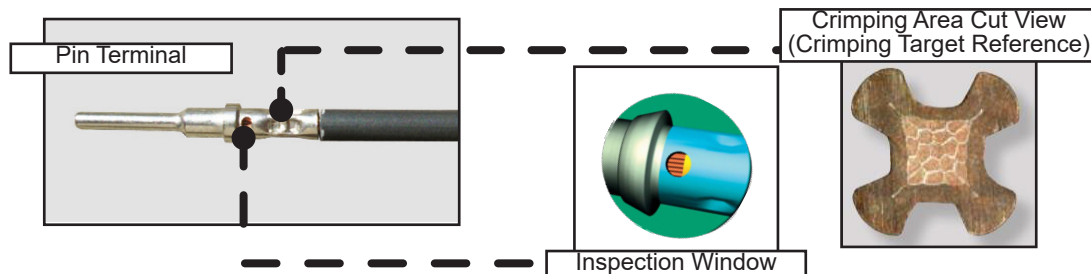

Figure 16 - Deutsch DT Pin Terminal
- 1.28. Using the Deutsch DT crimping tool (see figure 10), crimp the pin terminal PN G5900719 on both WHITE and RED control wires (see figure 16). Refer to the figure below showing a typical Deutsch DT solid socket terminal crimp example and to Annex 3 for more information about the TE Connectivity's Deutsch DT solid terminals crimping quality guidelines.